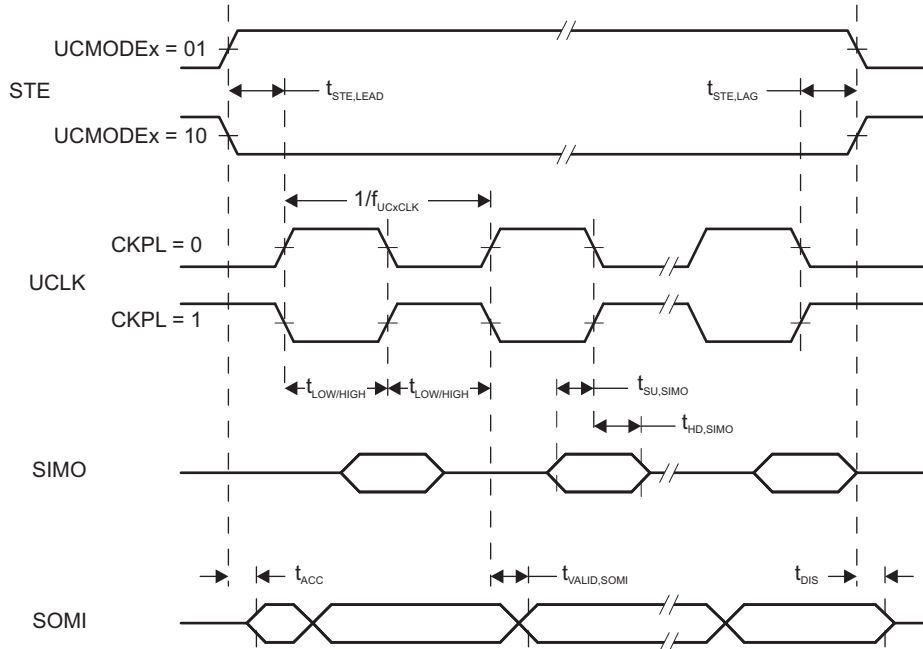

Figure 5-13. SPI Slave Mode, CKPH = 0
- (2) Specifies the time to drive the next valid data to the SOMI output after the output changing UCLK clock edge. See the timing diagrams in Figure 5-13 and Figure 5-14.
- (3) Specifies how long data on the SOMI output is valid after the output changing UCLK clock edge. See the timing diagrams in Figure 5-13 and Figure 5-14.